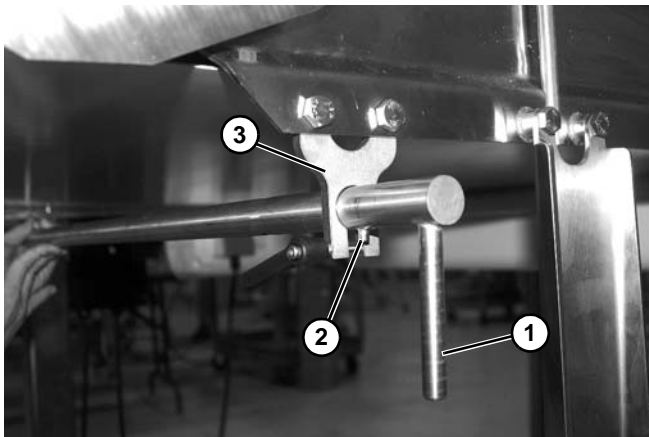

Figure 71
4. Rotate scraper shaft with handle (**Figure 71, item 1**) facing downward so pins (**Figure 71, item 2**) go through slotted area of scraper adjust plate and scraper mount plate (**Figure 71, item 3**).